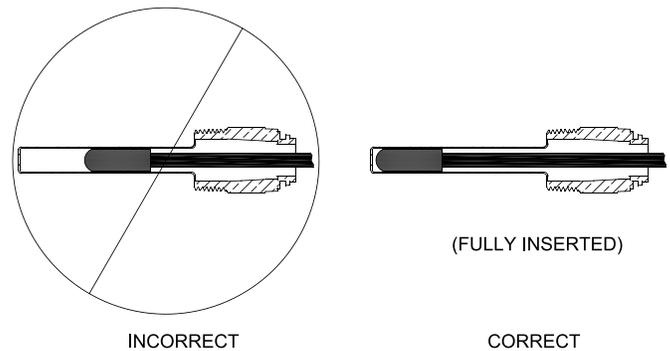

Figure 6: Limit Sensor Insertion
- c. Locate the Limit sensor inside Boiler Control. Carefully connect sensor into the Boiler Control circuit board by pressing connector on sensor unit into mating connector on circuit board (refer to Figure 40). Insert sensor through hole in circuit board and into immersion well until it rests against the bottom of the well as shown in Figure 6.